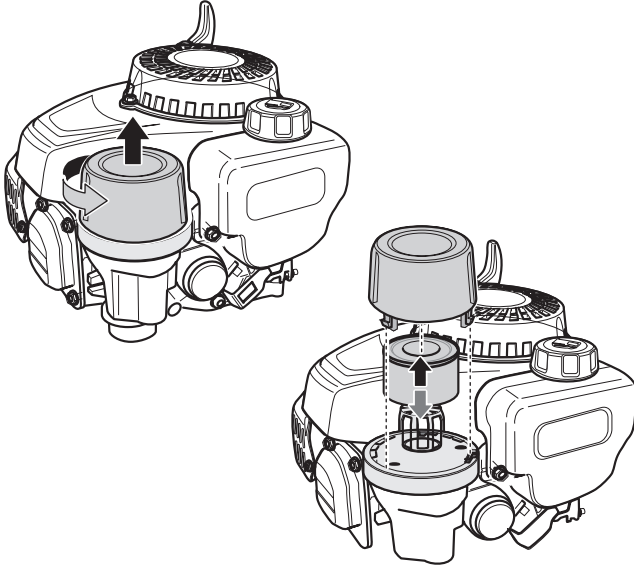

Figure 6-3
1. Remove the air filter cover by turning counter-clockwise then lifting. See Figure 6-3.